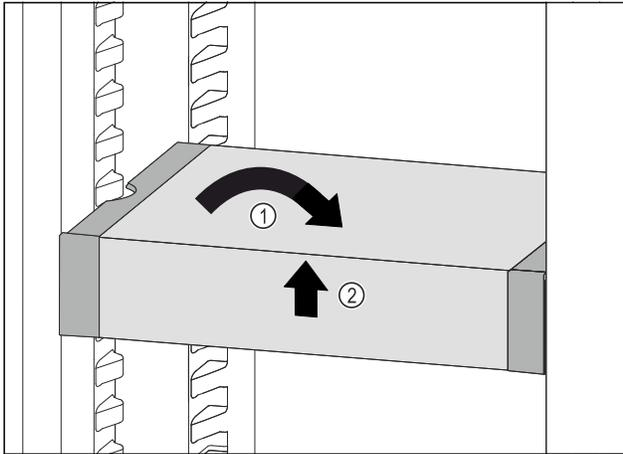

Fig. 101
- ▶ Set VarioSafe straight. *Fig. 101 (1)*
- ▶ Lift VarioSafe at the front. *Fig. 101 (2)*